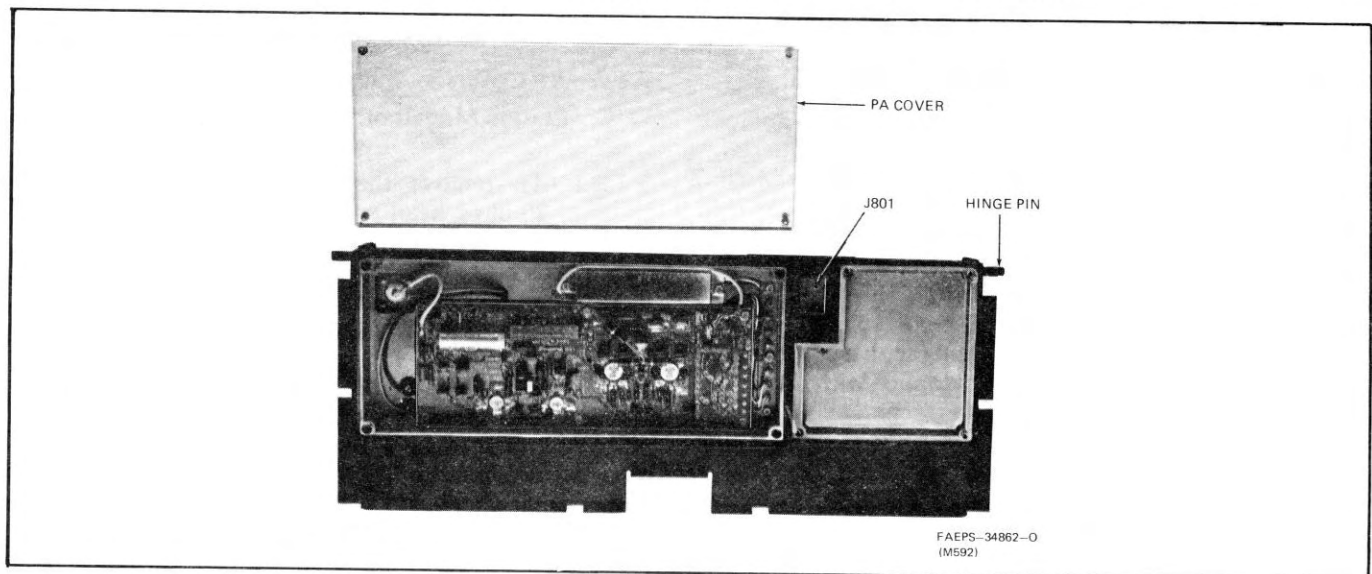

Figure 2. Power Amplifier Detail of Intermittent Duty Station
5.2.1.2 To gain access to the power amplifier board for servicing, remove the two black power amplifier securing screws. Swing the PA chassis assembly out and down (it is hinged at the bottom). Loosen 4 captive screws holding the cover over the power amplifier board (refer to Figure 2).